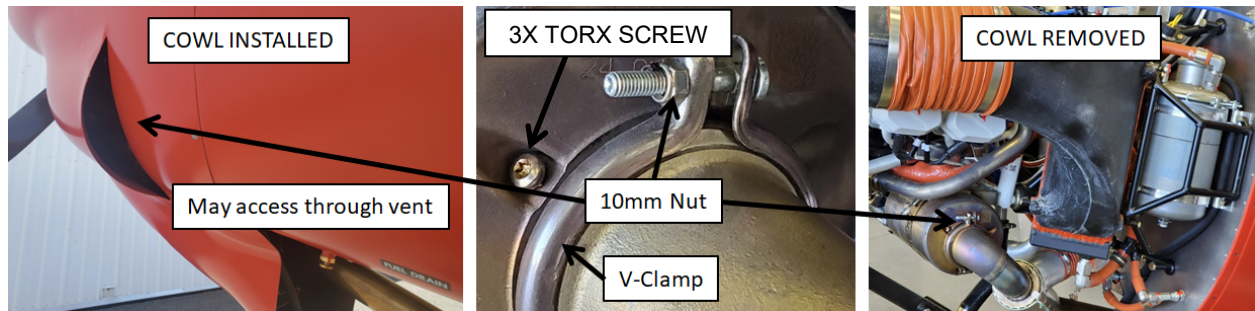

Figure 2 - V-Clamp and 10mm Nut Location
8. Remove the cowling per the AMM. (It is acceptable to leave the cowling in place if the nut and 3 screws in the following step can be reached through the cowl vent.) See Figure 2.